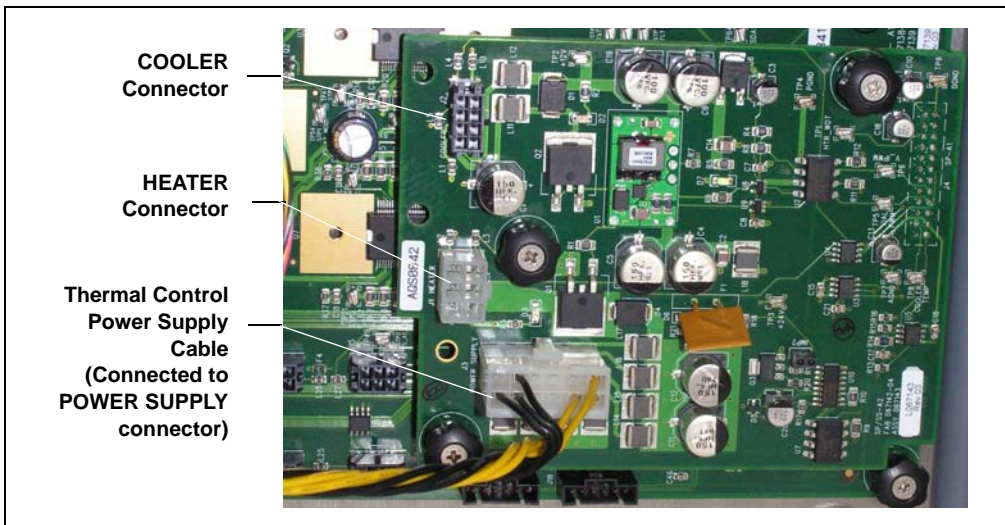

Figure G-3. SP Electronics Board: Thermal Control Power Supply Cable Installed
7. Plug the cable from the SP power supply into the connector labeled **POWER SUPPLY** on the thermal control board (see Figure G-3).
4. Plug the vial cooler cable into the connector labeled **COOLER** on the thermal control board (see Figure G-3).
1. Plug the heated dilution vessel extension cable into the connector labeled **HEATER** on the thermal control board (see Figure G-3).